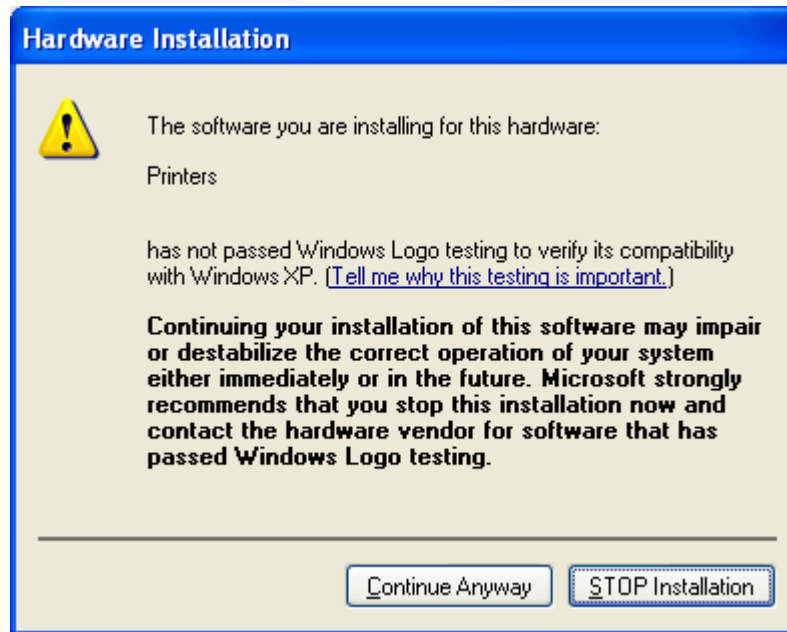

Fig. F9
13. The **Digital Signature Not Found** message box will appear (figure F9). You will be asked if you wish to continue installation, select **Yes**. In Windows XP, select **Continue Anyway**.